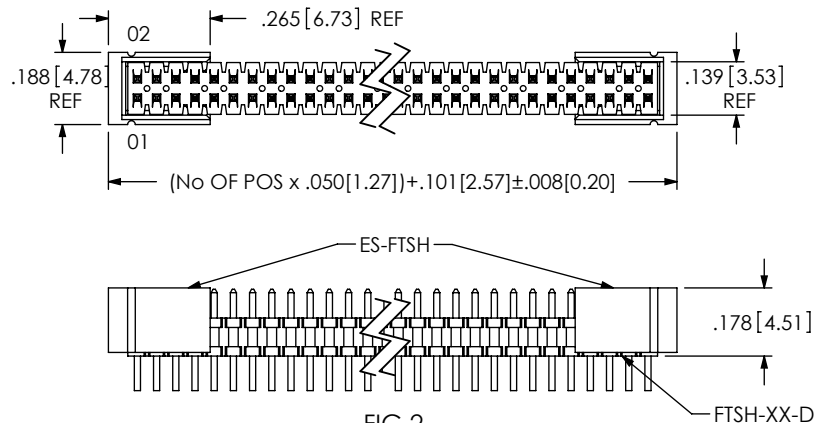

FIG 2
-ES: END SHROUDS (SEE FIG 2, SHT 2)
(DIFFERENT AS SHOWN, OTHERWISE SAME AS FIG 2)